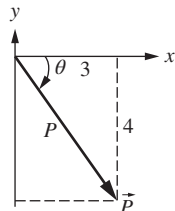

Figure P4.10 A position vector for problem P4-10.
- 4-10.** The x - and y -components of a vector \vec{P} shown in Fig. P4.10 are given as $P_x = 3$ in. and $P_y = -4$ in. Find the magnitude and direction, and write the vector \vec{P} in its rectangular and polar forms.